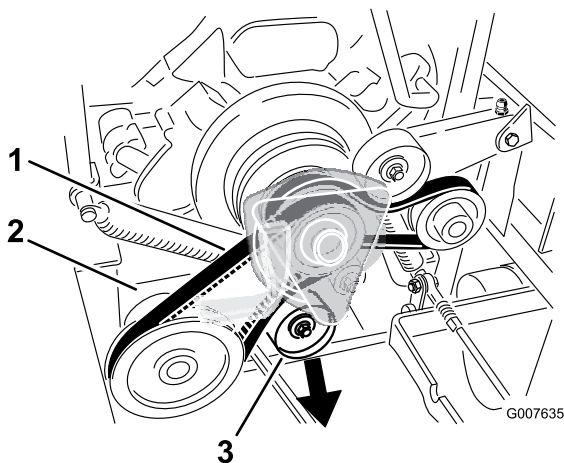

Figure 55
5. Push down on the spring loaded idler pulley for the PTO drive belt and remove the belt from the clutch pulley (Figure 55).
17. Push down on the spring loaded idler for the PTO drive belt and install it onto the clutch pulley (Figure 55).